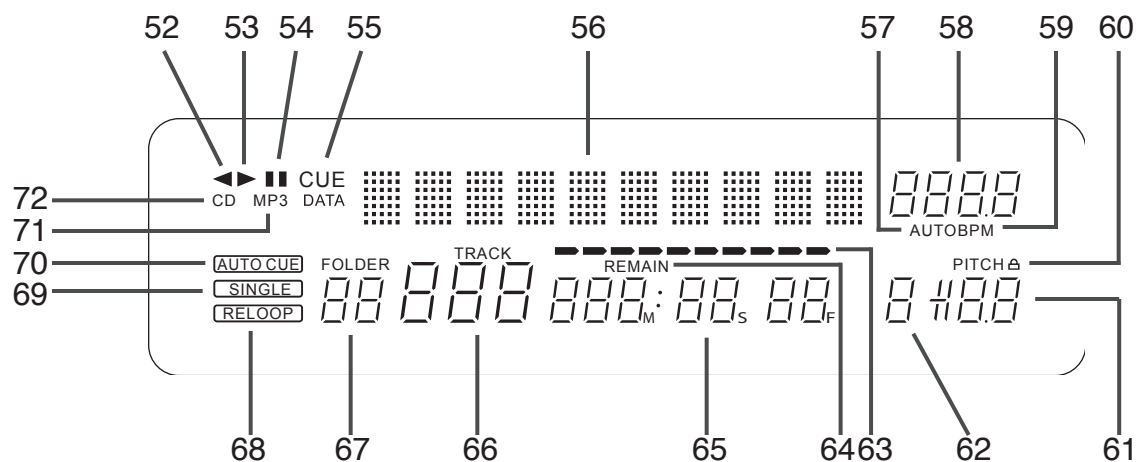

Figure 4
D. VFD DISPLAY PANEL (FIGURE 4)
57. AUTO BPM - This will indicate that the AUTO AUTO BPM counter is active. To turn on the AUTO BPM press and hold the *TAP BUTTON* (29) for 2 secs.